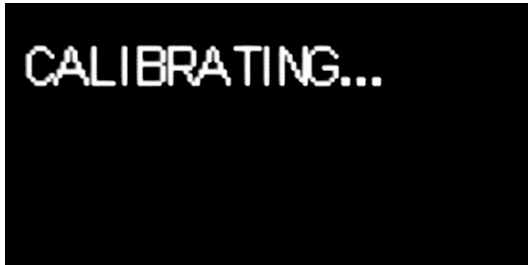

Figure 2-11 Calibration in Progress
1. When self-calibration is selected, Figure 2-11 shows on the display. Please shorten 2 tips and press any button to start the short calibration.